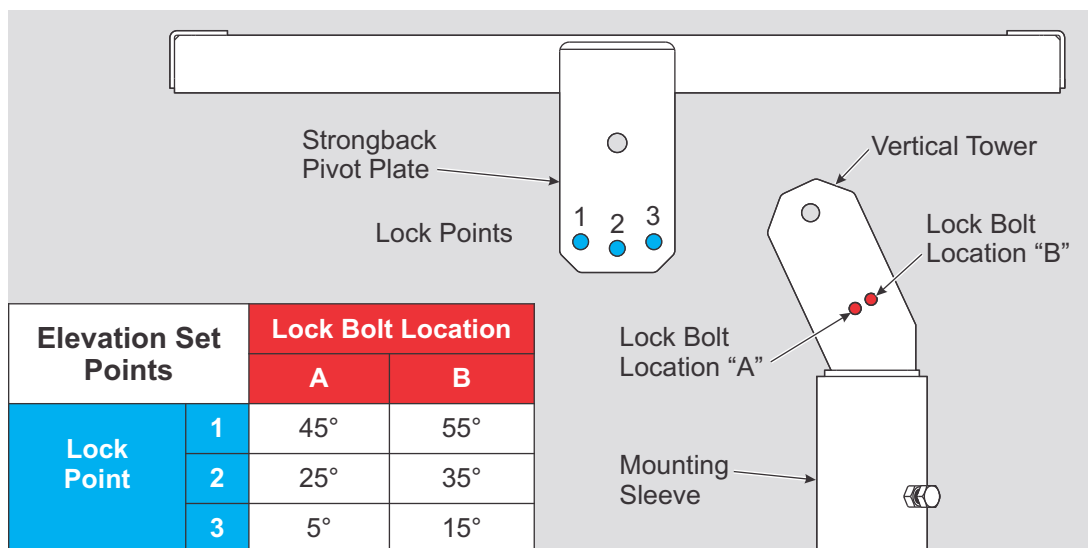

Figure 6-2: Setting the Elevation Angle
- B. Refer to Figure 6-2 and tilt the rack to the desired elevation angle (5°, 15°, 25°, 35°, 45°, or 55°). Re-insert the 5/16" Lock Bolt in the appropriate hole to match the desired elevation. **Torque to 12-14 ft.-lbs.**